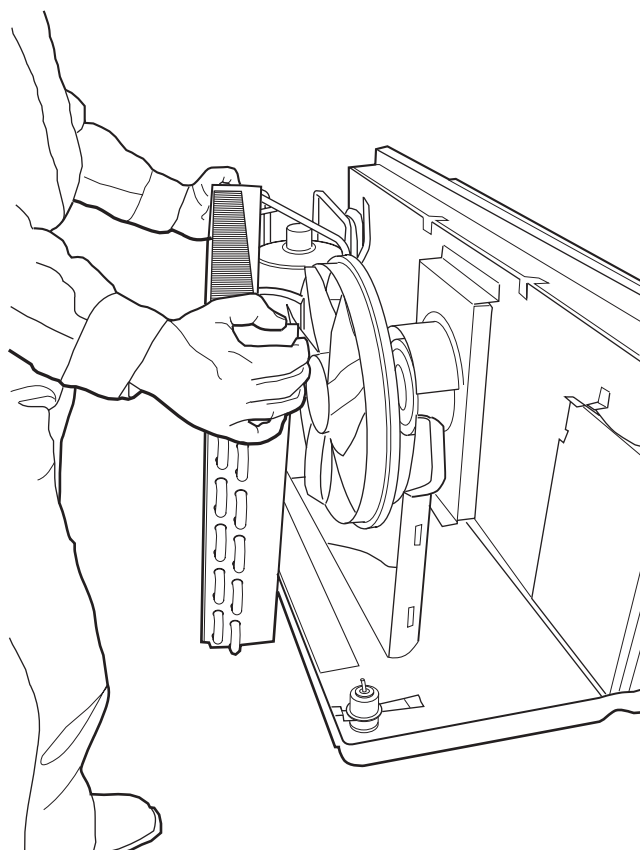

FIGURE 17 — REMOVING OUTDOOR COIL FROM CONDENSER FAN
- c. Carefully lift condenser up and away from condenser fan. Rest condenser on basepan. See Figure 17.